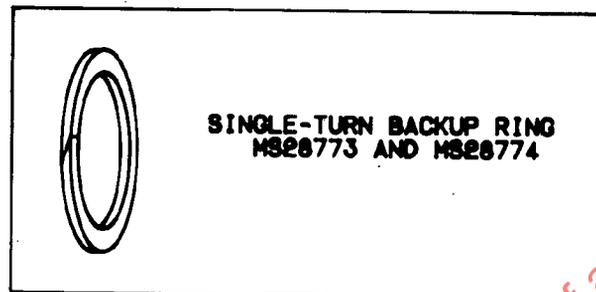

FIGURE 11
- 7.1 Single-turn backup rings (Figure 11), per MS28773 and MS28774, are recommended for Type I (-65°F to +160°F) and Type II (-65°F to +275°F) Class 1 (1500 psi) or Class 2 (3000 psi) hydraulic systems per MIL-H-5440.